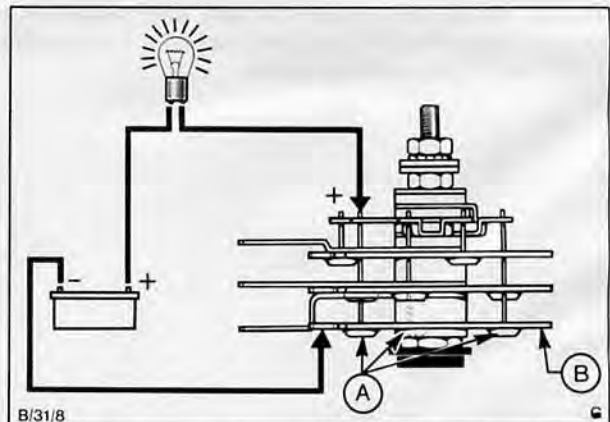

Fig. 46. A – Negative diodes
- (a) Connect test equipment to negative plate of diode pack, Fig. 46, with positive terminal attached to topline of one of diode stems connected to negative plate. If diode is functioning correctly bulb will illuminate.